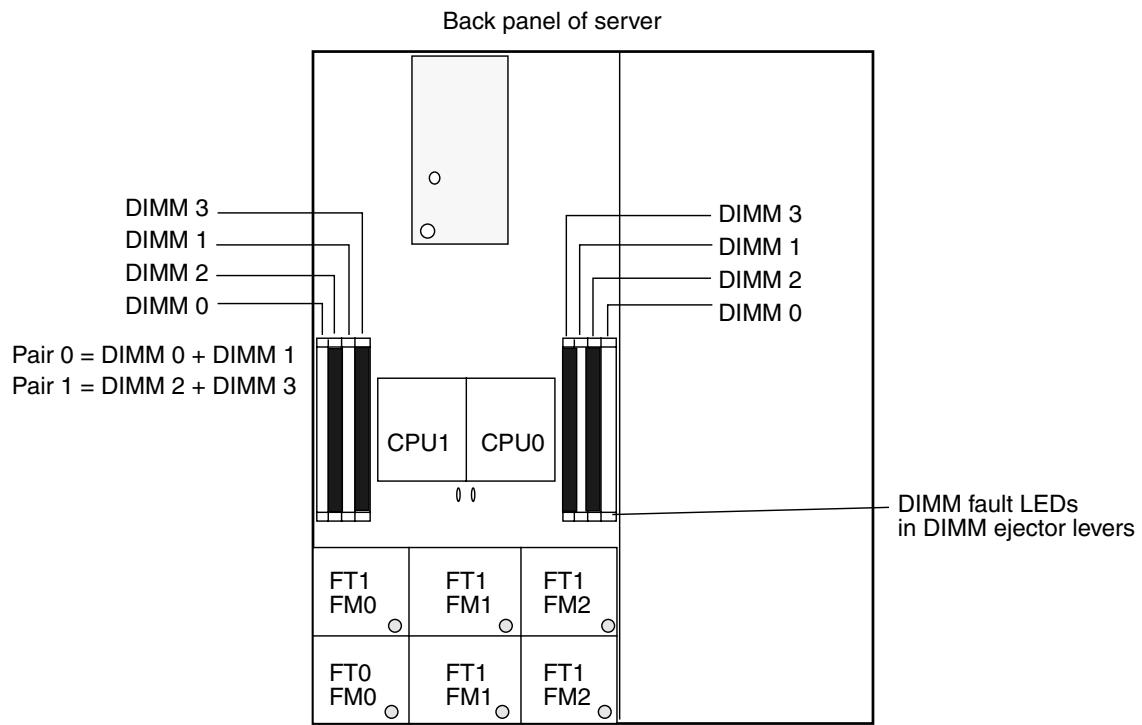

FIGURE 1-4 Sun Fire X4100 and Sun Fire X4200 DIMM Slot Locations
FIGURE 1-4 shows the numbering of the Sun Fire X4100/X4200 DIMM slots.
3. **Inspect the fault LEDs on the DIMM slot ejectors and the CPU LEDs on the motherboard.** See FIGURE 1-4.